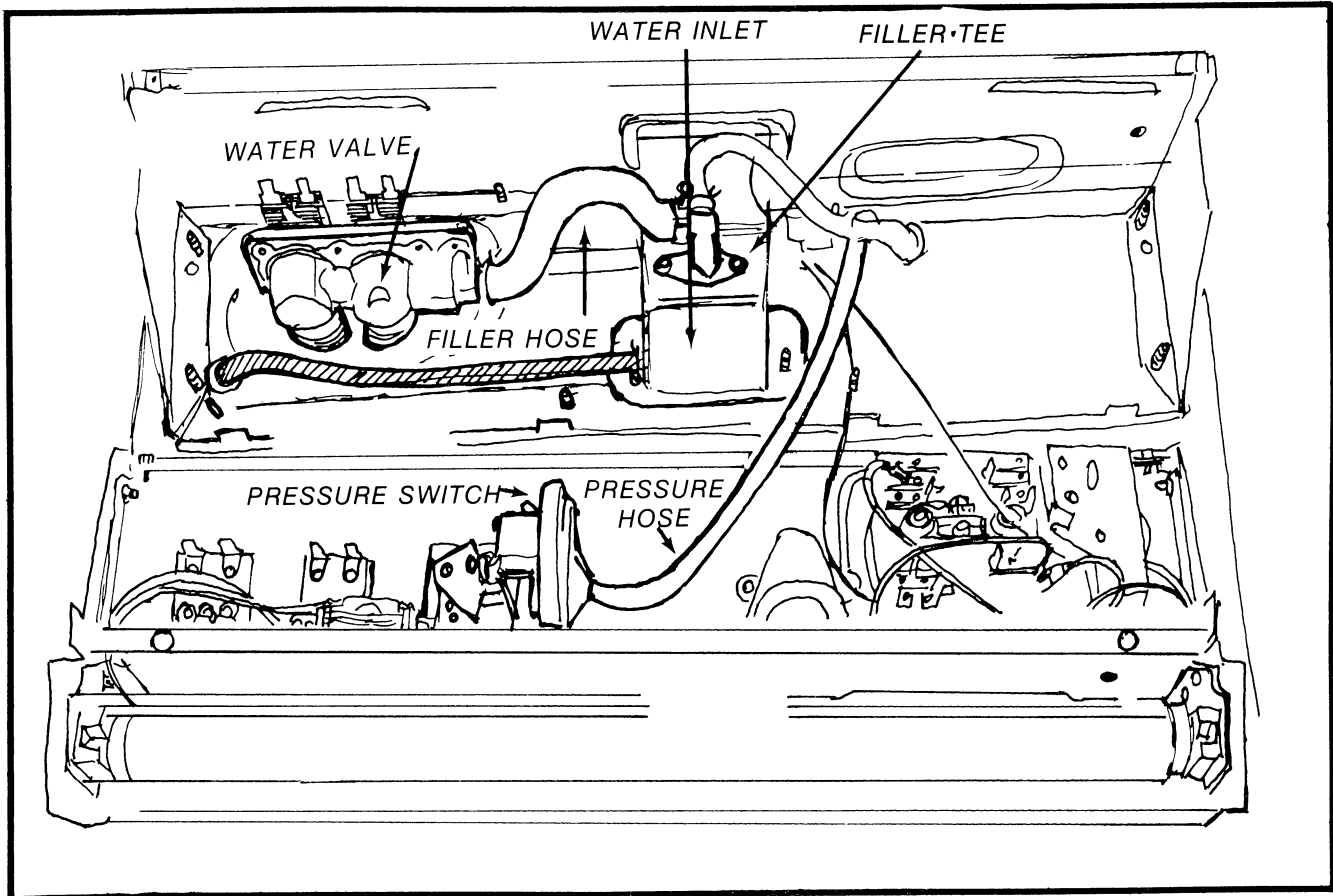

Figure 9 — Water Valve, Pressure Switch
6. Open the loading door and lift the lid off of the bleach dispenser. Remove cover and compress dispenser, push dispenser down through the opening in the cabinet top, *Figure 9*.